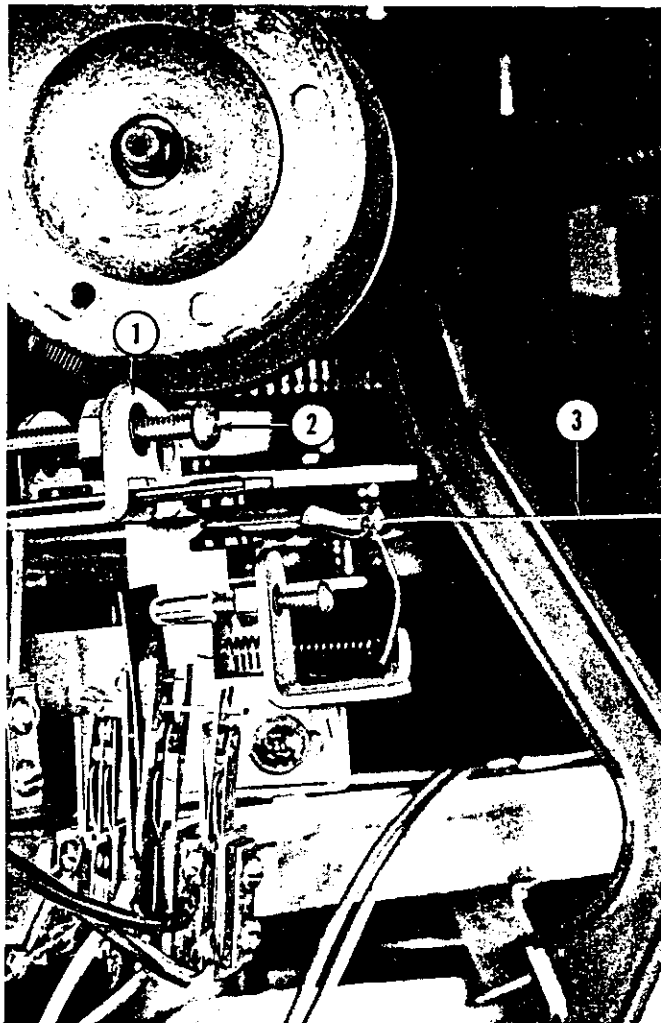

Fig. 99. TONE ARM BRUSH SETTING.
(3) With the record changer mechanism in the "at rest position", turn the adjusting screw (Item 2, Fig. 99) for the tone arm brush to take up or release the actuating cable as required to position the brush 1/4" to 1/2" below the cartridge.